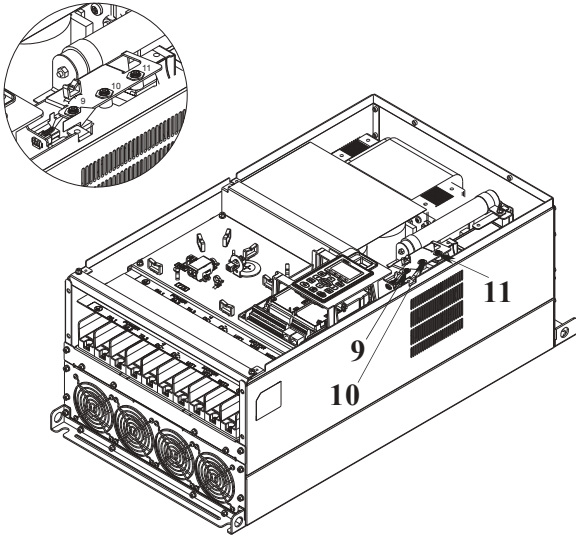
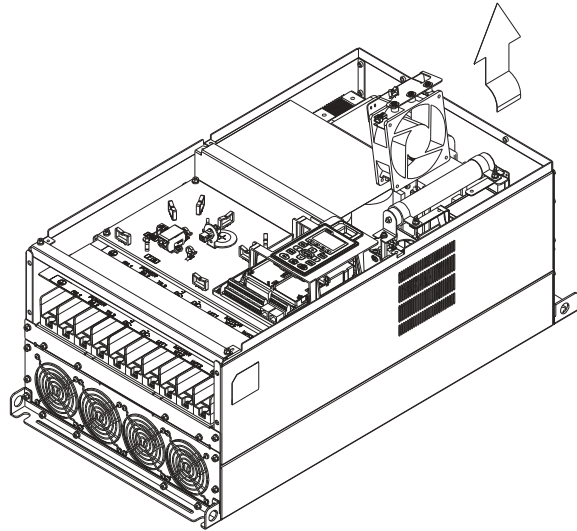

Figure3
Figure 4
- (3) As shown in the partially enlarged image, disconnect the fan's power.
(4) Loosen the screws 9~11 (figure 3) and remove the fan (figure 4). Screw torque: 24~26kg-cm (20.8~22.6lb-in)